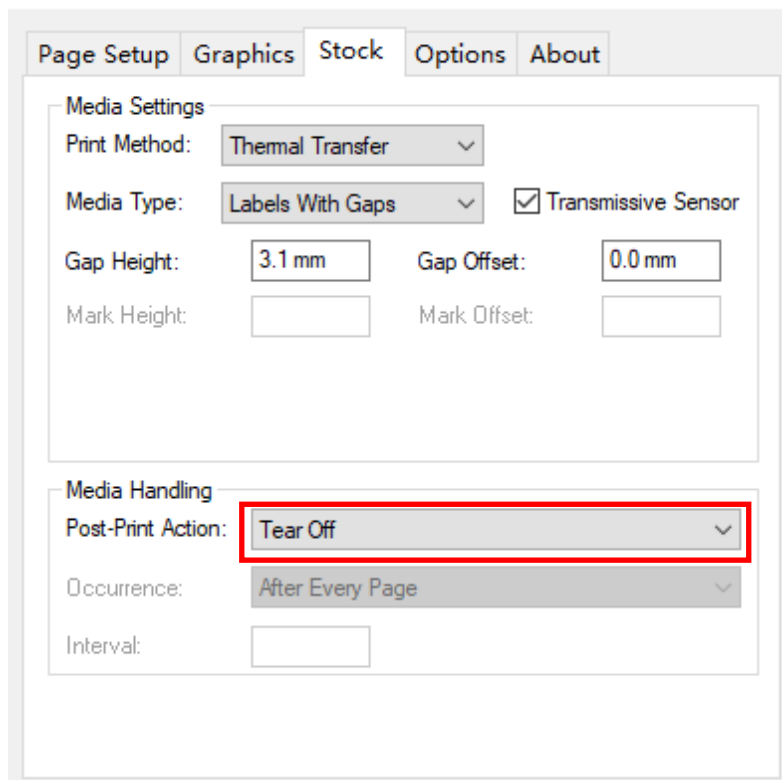

Figure 3-2 Stock Interface
1. Right click at the printer driver icon installed on the PC, select “Printer Preferences” → “Stock” → “Post-Print Action” → “Tear Off” to enable Tear-off Mode, as shown in Figure 3-2.